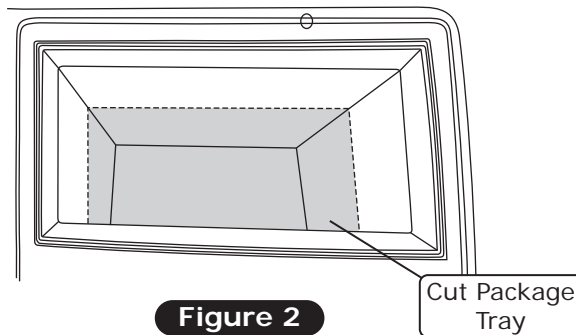

Figure 2
6. Install the trim panel assembly into the dash pad. Then, install a dash trim middle spacer and (2) dash trim end spacers as shown in Figure 2, below. Secure the trim assembly using (6) 4-40 locknuts (See Figure 2, below).
2. Measure, mark cut and remove the back of the package tray (See Photo 1 and Figure 2, below). **NOTE: Be sure to cut using the dimension provided to properly install the new louver bezel.**
3. Place the driver-side louver into the square opening, then drill the (4) mounting holes using a 3/32" drill bit (See Photo 2, below). Secure the louver using (4) #4 x 1/2" screws (See Photo 3, below).